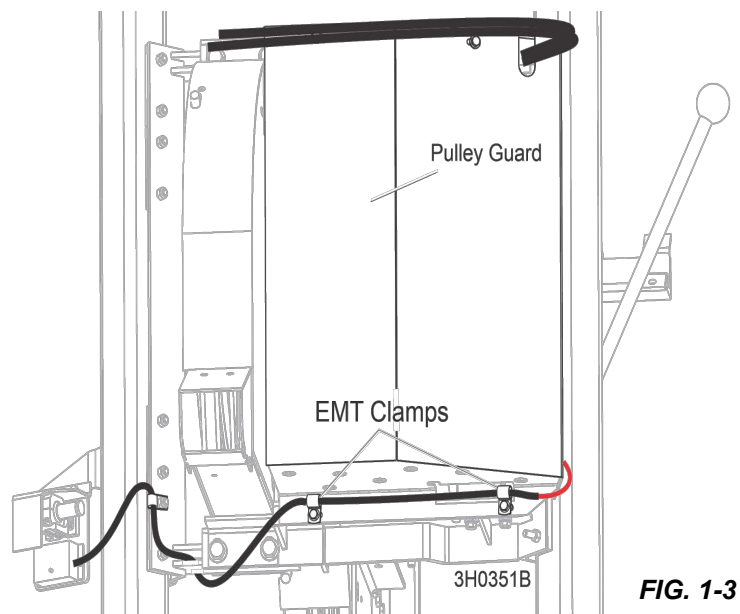

FIG. 1-3
10. Reinstall the drive belt guard, keeping the lower part of the laser assembly wire outside the guard as shown in FIG. 1-3.